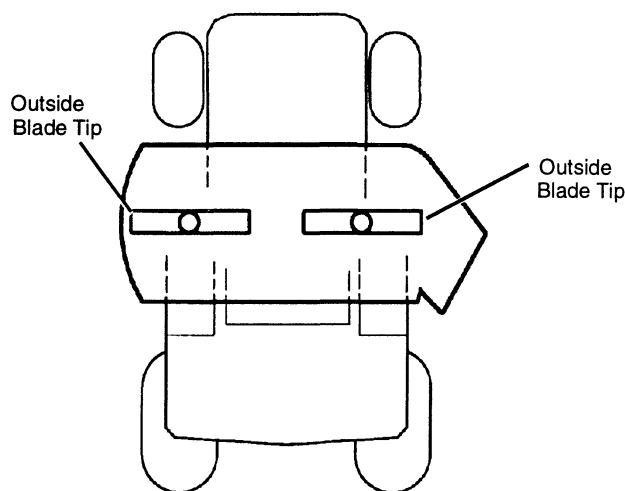

FIG. 43
- Measure height from level surface to outside blade tip on left and right blades. (See Fig. 43) Difference between measurements should not exceed 6 mm (1/4 in.).